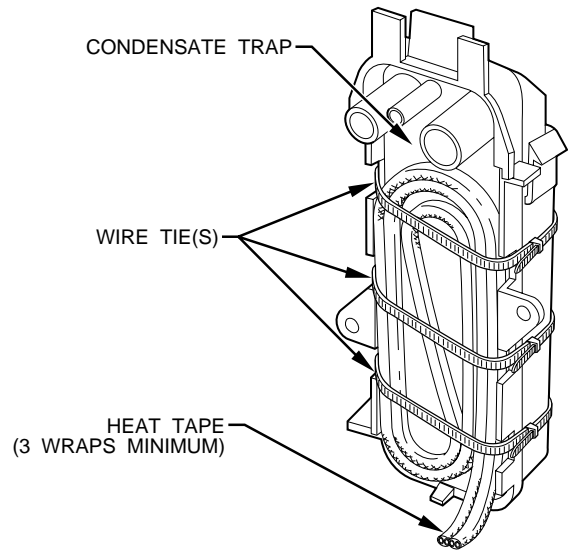

Fig. 44—Condensate Trap Heat Tape
2. Locate heat tape between sides of condensate trap back. (See Fig. 44.)
3. Use wire ties to secure heat tape in place. Wire ties can be positioned in notches of condensate trap sides. (See Fig. 44.)